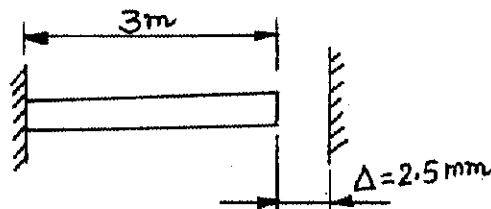

Fig.Q2(c)
- c. The bronze bar 3m long with 320mm² cross sectional area is placed between two rigid walls. At -20°C there is a gap $\Delta = 2.5$ mm as shown in Fig.Q2(c). Find the magnitude and the type of stress induced in the bar when it is heated to a temperature 50.6°C. For bronze bar, take $\alpha_B = 18.0 \times 10^{-6}/^\circ\text{C}$ and $E = 80$ GPa. (07 Marks)